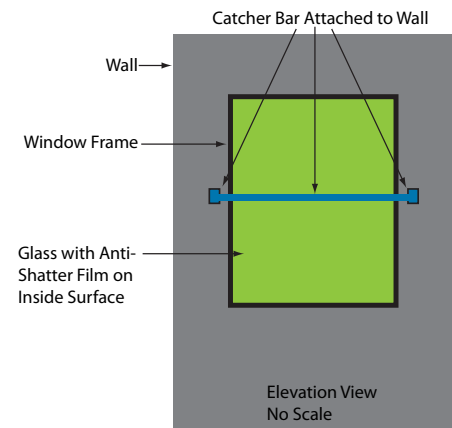

Figure 2: FRF Plus Catcher Bar.
*FRF Plus Catcher Bar* – One way to improve the protection provided by daylight-applied FRF is to install a rigid bar across the filmed glass, on the interior, either horizontally or vertically (Figure 2). In a blast event, the FRF will hold the glass together, and if it shears off around the perimeter, the pane will wrap around the catcher bar and slap together – likely dislodging a few fragments. Substantial anchorage is required at both ends of the rod, which protrudes into the room and may be an impediment if the window is intended to be operable. Thicker FRF – typically 7 to 11 mils – is required, and for an IGU, fragments from the outboard lite will be largely unimpeded.